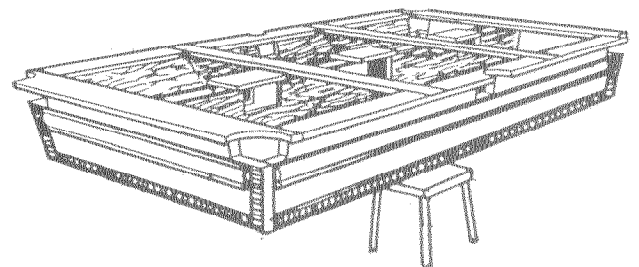

FIGURE 3
2. Position the base frame assembly over two stools or chairs as shown in Figure 3.